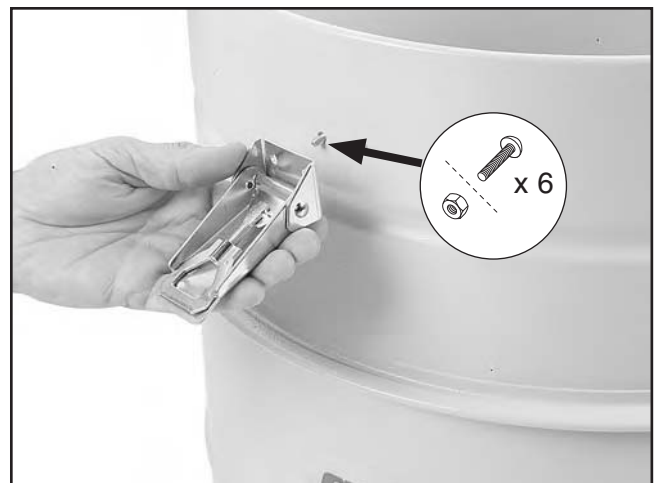

Figure 20. Lid latch installation.
11. Attach the lid latches to the side of the drum extender using (6) #10-24 x $\frac{3}{8}$ " Phillips head screws and (6) #10-24 hex nuts, as shown in **Figure 20**.
Note: To avoid bag snags, place the screw heads inside of the drum with the shanks facing outward, as shown in **Figure 20**.